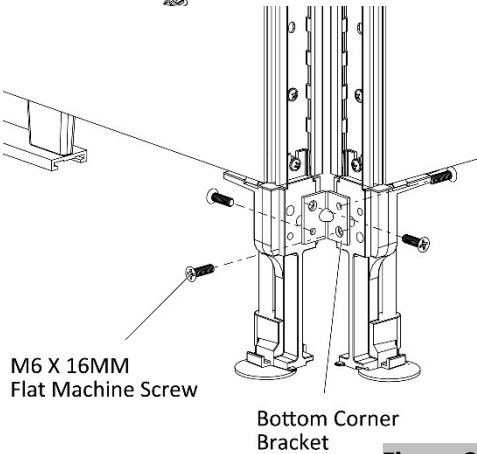

Figure 2
5. Securely fasten the bottom corner bracket to panel legs with four M6 X 16MM Flat Machine Screws, (Figure 2).